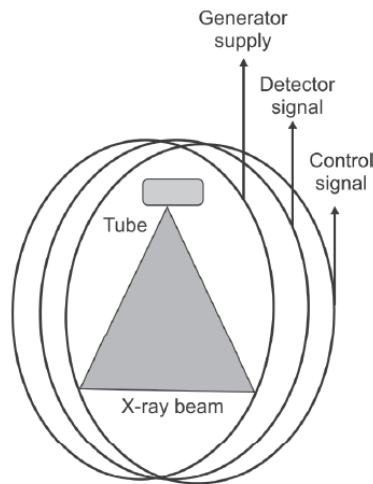

Figure 2: slip ring technology.
- ✓ The slip ring has three rings. Each ring makes connectivity to the X-ray generator, detector, and control signals. With slip rings arrangement, the X-ray tube can rotate faster (5 s/rot) and move more than 360 degrees. (Figure2).